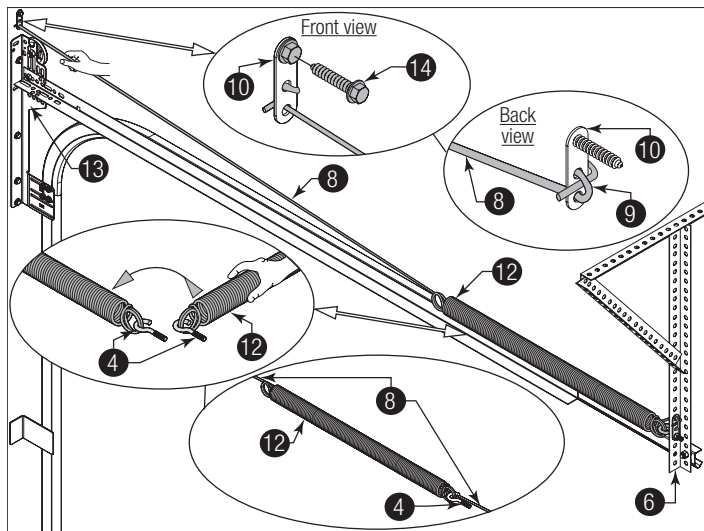

Figure 49, Left Side Shown
**IMPORTANT:** Whenever adjusting extension spring length for door balance, always open the door to the fully open position and return the locking pliers, as shown in Figure 49 to the horizontal tracks below the bottom track rollers.